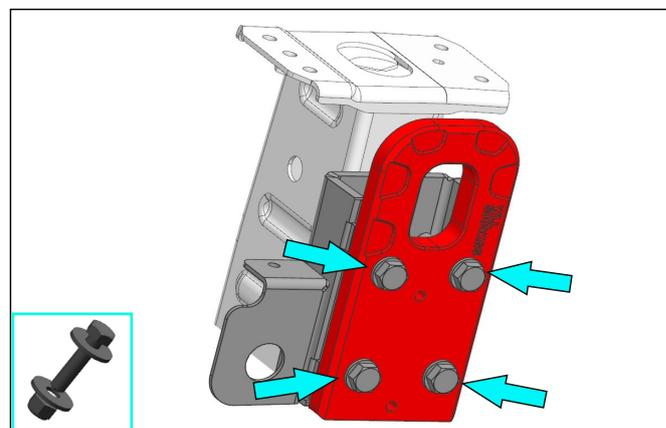

Fig.27
27. Install recovery point (item 40) on recovery point bracket (item 41) and fix it using bolts M12x60, washers 12 and nuts M12 (item W, Y, Z) (fig.27).